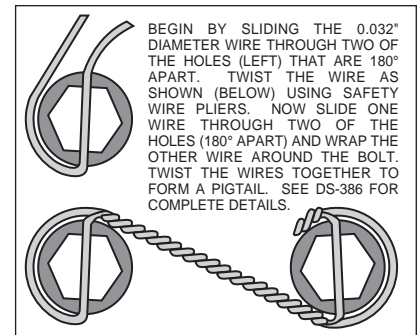

Figure 4. Safety Wire Diagram
•With the larger I.D. side of the rotor (5) facing away from the hat (6), bolt rotor (5) to hat (6) through the backside of the rotor using washers (7) and bolts (8). Torque bolts (8) to 85 **in-lb**. Safety wire bolts (8) using standard 0.032 inch diameter stainless steel safety wire as shown in Figure 4. Please refer to Wilwood's data sheet DS-386 (available at www.wilwood.com.pdf/ds386.pdf) for complete safety wire installation instructions. Slide the rotor/hat assembly onto the hub. Install a couple of lug nuts (finger tighten) to keep the rotor/hat assembly in place while continuing with the installation.
•**NOTE:** Please reference the caution statement at the beginning of the assembly instructions. With the bleed screws pointing up, mount the caliper (9) onto the caliper mounting bracket (1) using two bolts (10), two lock washers (11) and two flat washers (12). On the back side of the caliper (9) between the caliper ears and the caliper mounting bracket (1) insert spacer (13) before tightening caliper mounting bolts (10). View the rotor (5) through the top of the caliper (9). The rotor (5) should be aligned in the center of the caliper (9). If not, loosen the two bolts (10) and adjust the caliper (9) by using 0.030 inch thick shim washers (12). The shim washers (12) should be placed between the caliper (9) and the caliper mounting bracket (1). Finger tighten and recheck alignment. Add as many shim washers (12) as necessary to achieve the correct alignment. Always use the same amount of shims on both the top and bottom caliper mounting bolts (10). Loosen the two bolts (10) and apply red *Loctite*® 271 to bolt threads (10) and torque to 47 ft-lb. Safety wire the two bolts (10).
•Remove the caliper bridge bolt and install the disc brake pads (14) then reinstall the caliper bridge bolt. Repeat this procedure for the other wheel.